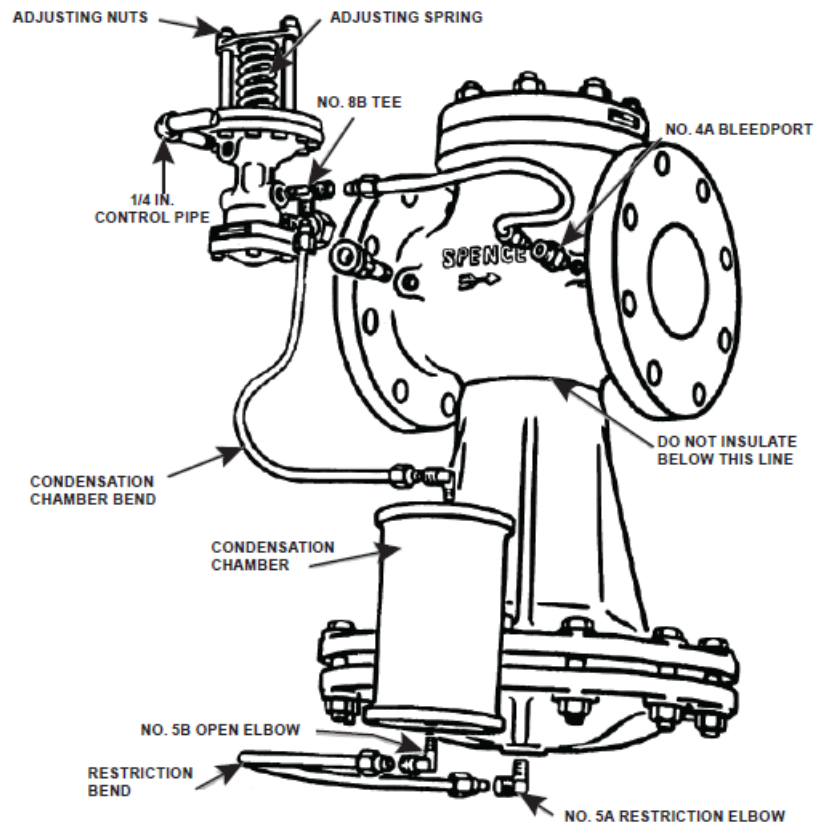

Figure 3. Regulator Assembly for Type E5 Main Valve with Condensation Chamber
The regulator is operated by initial steam or fluid pressure. It is normally closed, being held so by initial pressure on the disk and by an internal main spring, see Figure 3. When the pilot is opened (see pilot instructions), initial pressure flows through the pilot to the 8B tee. 4A bleed port restricts the flow and pressure builds under the diaphragm and opens the main valve.
5. Connect tubing bends as illustrated in Figure 3.
2. Close pilot by releasing compression on adjusting spring. See Figure 3.